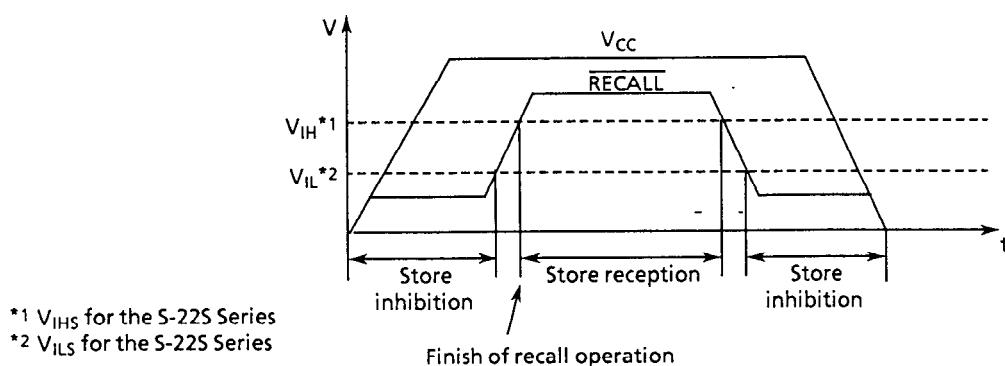

Figure 9 STORE inhibition period and reception period at power ON and OFF
- RECALL goes  $V_{IH}(V_{IHS})$  when power turns on or off (see Figure 9).